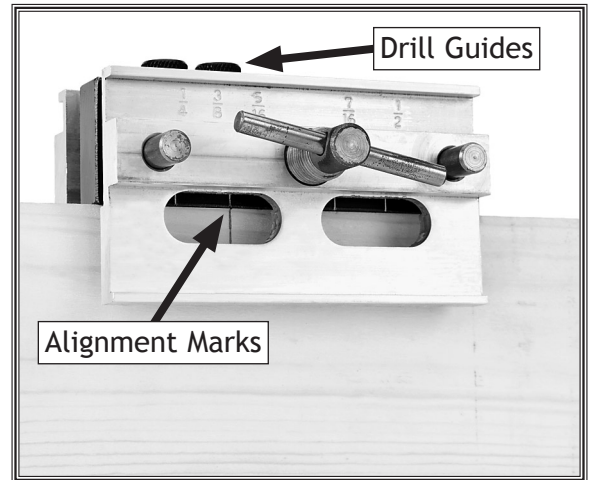

Figure 3. Doweling jig setup.
3. Separate the boards, align the appropriate mark on the bottom of the middle bar with the mark on one of the boards (see **Figure 3**), then firmly clamp the jig to the board.